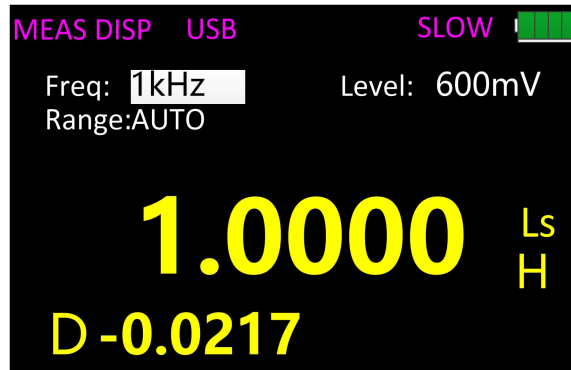

Figure 16
2. Press the **AUTO/R/C/L/Z** key until Ls is displayed on the interface which means to select inductance measurement, shown in figure 16;